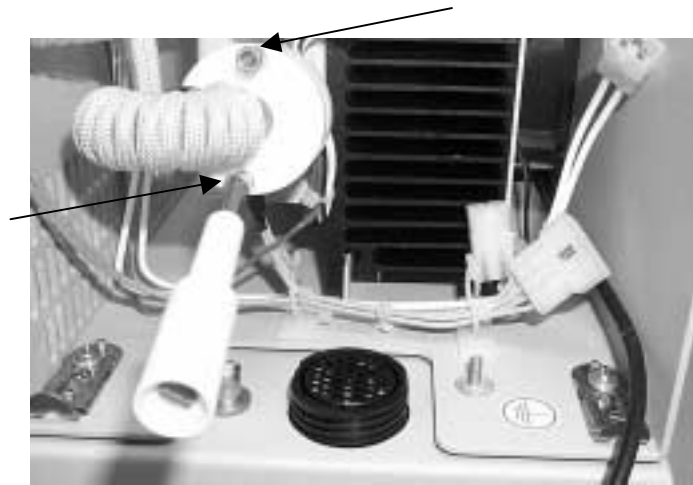

Figure 9
9. To remove the heated J-Tube Assembly remove the two screws holding the two piece clamp. See Fig. 9